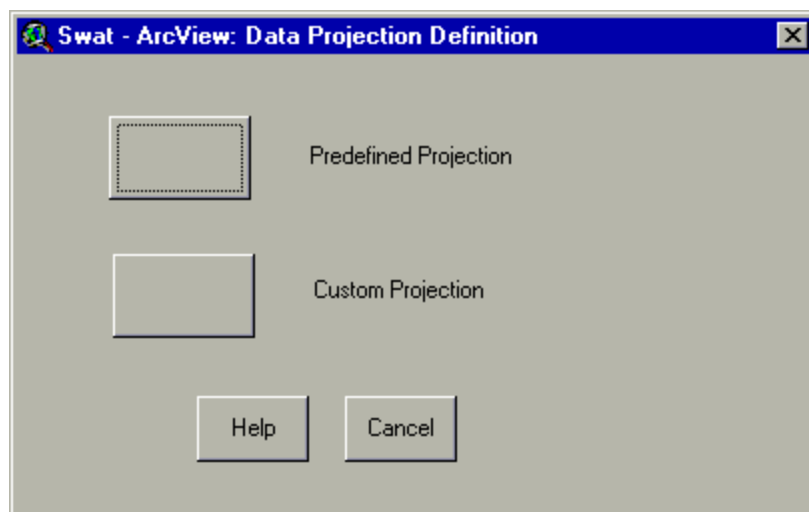

Figure 5.10
7. If **Yes** was clicked, a prompt box is displayed offering two options: **predefined projection** and **custom projection** (Figure 5.10). Click either **predefined projection** or **custom projection**.